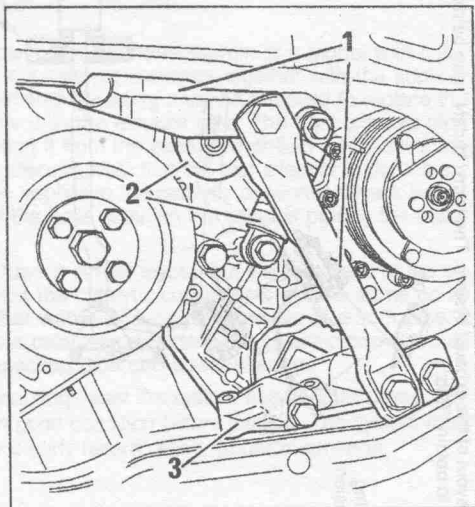

Fig. 1.65. — Remove the parts at the front of the engine to gain access to the oil pump.
- Refer to Fig. 1.65 and remove the parts of the engine mounting (1), the automa-